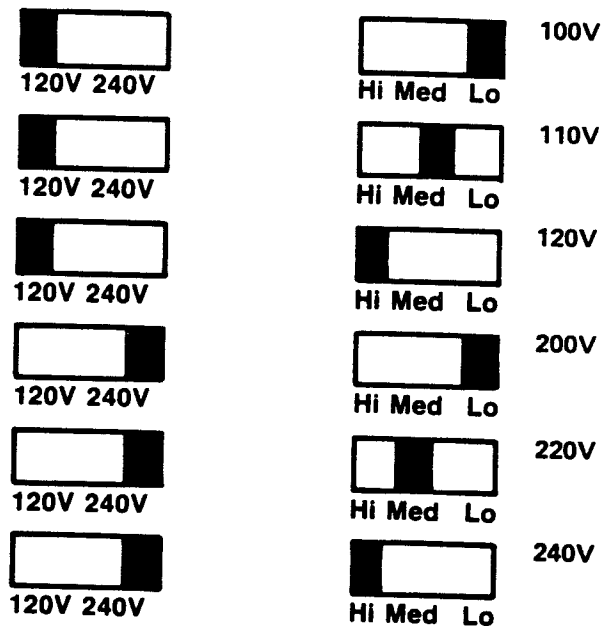

Figure 2-2. Power Supply Voltage Settings
- STEP 4 Reset the switches to the appropriate voltage, as derived from Figure 2-2, if necessary.